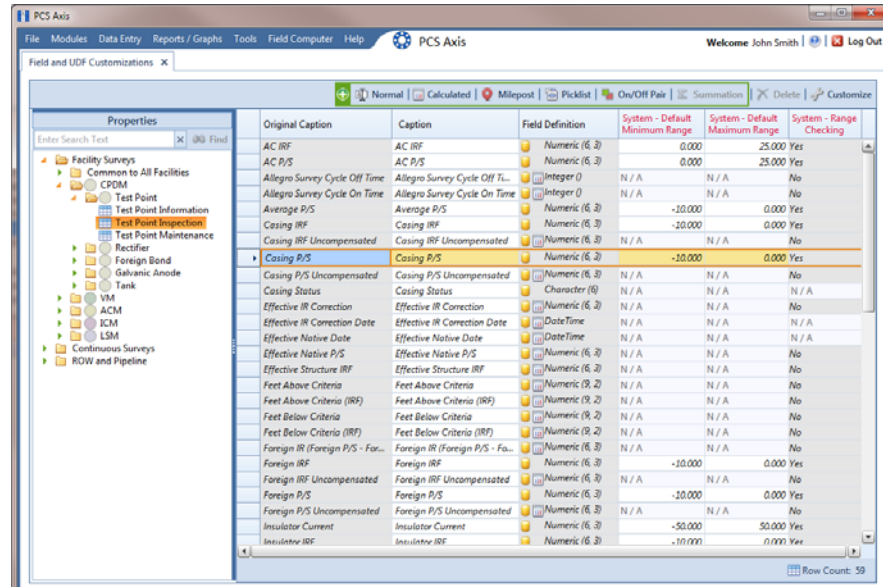

Figure 3-31. Field and UDF Customizations
For example, double-click **Facility Surveys** > **CPDM** > **Test Point** > **Test Point Inspection**. The grid displays related fields and property settings for the *Test Point Inspection* data entry grid (Figure 3-31, page 71).
- 4 Select the inspection field you want to set up for range checking. For example, select *Casing P/S* as shown in the following figure (Figure 3-31, page 71).